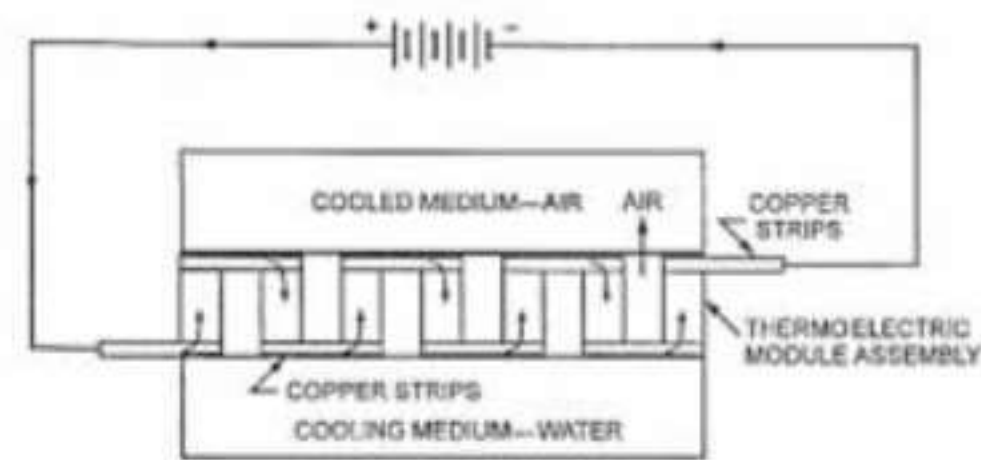

Figure 4.7: Thermoelectric Refrigerator
**Thermoelectric Refrigeration** Thermoelectric Refrigeration System works on the principle of Peltier effect according to which heat energy is evolved at one junction and absorbed at the other one when direct current is passed through a junction of two dissimilar metals like antimony and bismuth. It consists of a number of thermoelectric module assemblies in series joined by copper strips, as shown in figure 4.7. Each thermoelectric module is built up of a large number of thermocouples
**Working** When the direct current is passed through the thermoelectric module assemblies in the direction shown in figure 4.7, junctions at the top of the assembly are cooled and those at the bottom are heated up. Thus top junctions abstract heat from the surroundings and produce refrigerating effect and bottom junctions require cooling by water. Module assembly, therefore, abstracts heat from the medium at top and rejects the same to the medium at bottom.